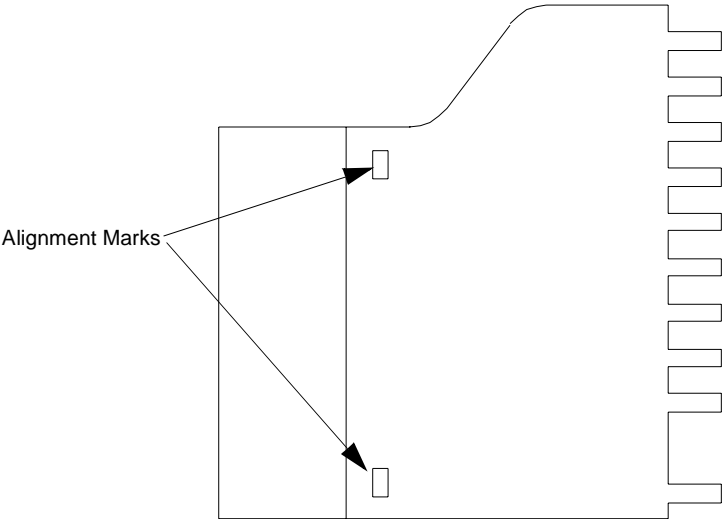

Figure 6-7 Alignment Marks on the Flex Circuit
Step 5. Connect the Main PCB to the SpO₂ Board by placing the flex circuit tab into the collared connector, hinging the collar down, and pushing it in. Make certain the alignment marks on the flex circuit tab are almost under the collared connector (See Figure 6-7). If they are not, repeat this step.